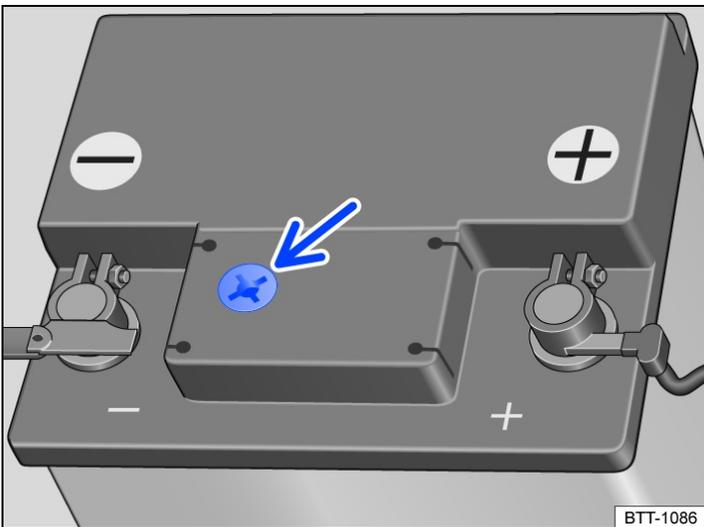

Fig. 2 Battery window on the top of the 12-volt vehicle battery (illustration).
- Ensure that enough light is available for you to clearly see the colour indicator in the round battery window on the top of the 12-volt vehicle battery (arrow) *→ Fig. 2*. Never use naked flames or glowing objects as a light source.